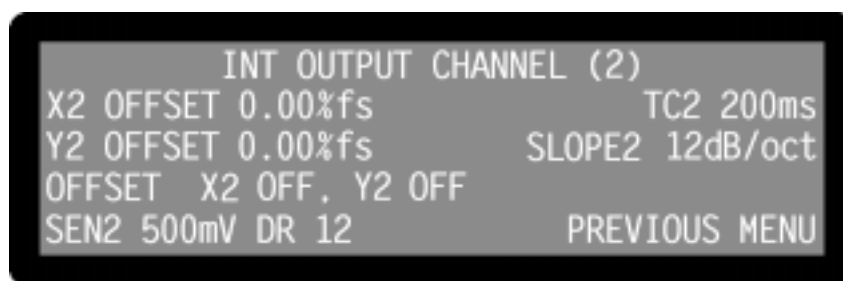

Figure 5-44, Int Output Channel (2) Menu
In dual reference mode, pressing a key adjacent to the Int Output Channel (2) item on the Ext Output Channel (1) menu accesses the Int Output Channel (2) menu, shown in figure 5-44.